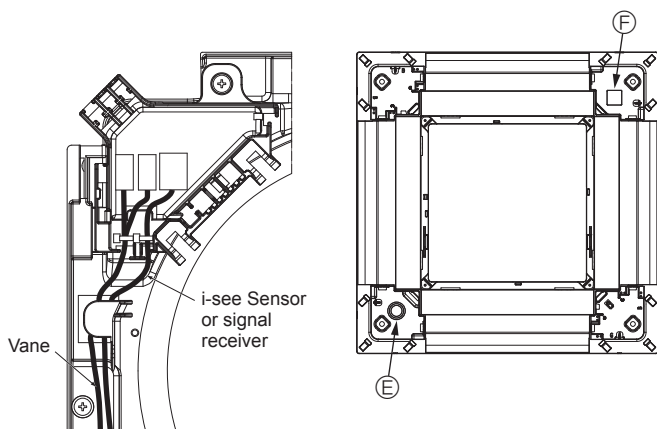

Fig. 10-13
- Route the i-see Sensor and signal receiver wires as shown in Fig. 10-13.